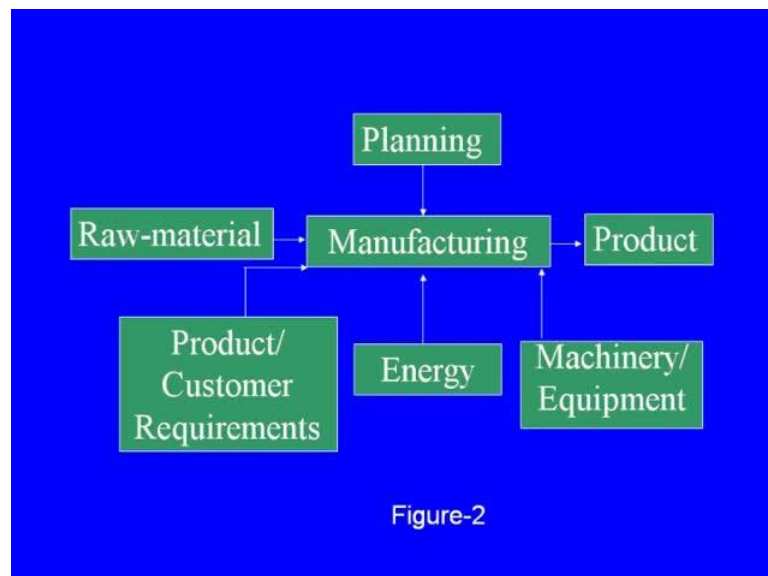

Fig. 1 Input-Output System
- Manufacturing system can be considered as a simple input-output system at the first stage as shown in Fig. 1.
A manufacturing system can be considered as a simple input-output system at the first stage as shown in the figure 1. As manufacturing involves more than just processing of raw materials, this input-output model does not provide sufficient information. Manufacturing as a system involves other inputs like energy, planning, appropriate missionaries and product or customers' requirements apart from raw materials.
- The basic models at shown earlier at Fig.1 and Fig. 2 can be further expanded to incorporate other functions involved in an organization.
The present day trends also look beyond the delivery of the product to the customer that is after-sale services offered by the organization. The basic models as shown earlier at figure 1 and figure 2 can then be further expanded to incorporate further functions, involved in an organization. The holistic approach incorporating all the above aspects is shown in figure 3.